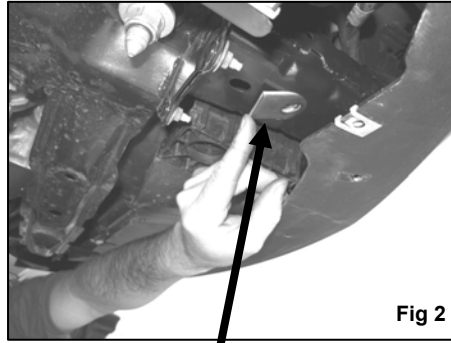

Fig 2
3. Insert (1) Double Nut Plate into front of passenger side frame and align the holes on the Double Nut Plate with the factory holes on the frame (Figure 2).